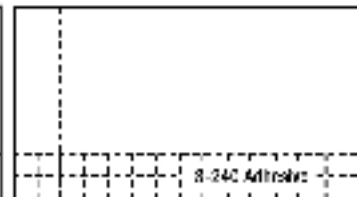

Fig. 2 Adhesive band.
3. Apply the S-240 Epoxy Adhesive in 2' or 3' bands (Fig. 2), being careful not to cover the chalk lines. Do not apply more adhesive than you can cover within 20 minutes. Immediately back roll the S-240 with the supplied paint roller. Allowing a 10-minute open time and fitting the border tile tightly will reduce tile shifting and adhesive oozing. DO NOT allow the adhesive to dry completely.